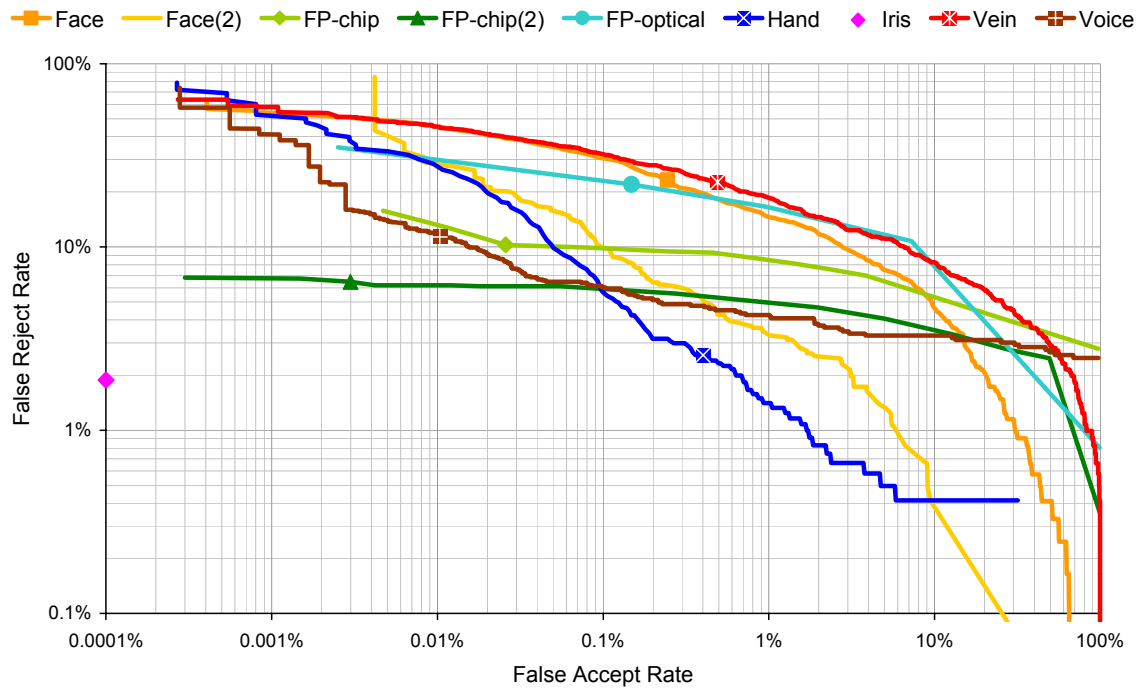

Figure 5. Detection error trade-off: FAR vs FRR
36. The false acceptance false rejection trade-off curve is shown in Figure 5. The curves for the face, hand geometry, iris and vein systems are unchanged, as these systems had no failures to acquire.